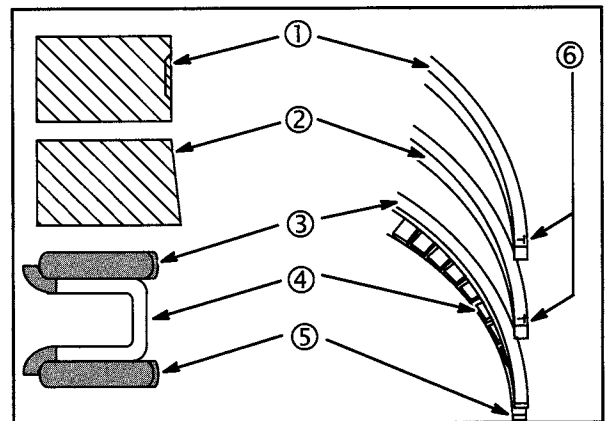

**Fig. 9**
3. Lubricate parts with engine oil. Assemble #2 piston and connecting rod, **Fig. 9**.